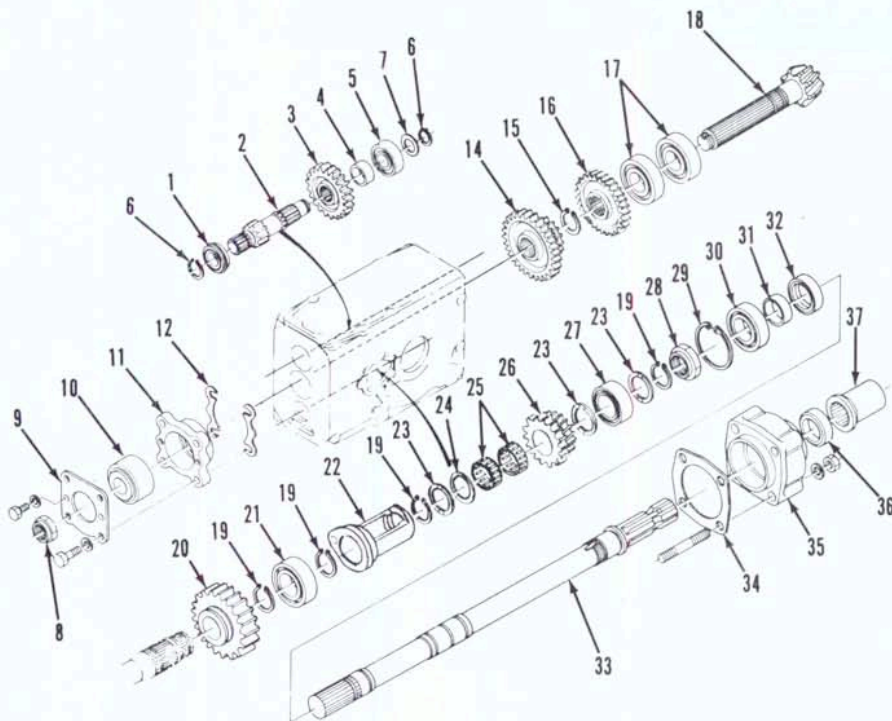

Fig. 119—Exploded view of gears and shafts located in rear transmission housing on Model L355.
ward and remove gears. Unbolt and remove front bearing (10) and bearing case (11). Retain shims (12) for use in reassembly. On Models L235 and L275, remove cap screws securing pto shaft bearing case (35-Fig. 118), then pull pto output shaft (33) and bearing case rearward as a unit from housing. Remove snap ring from rear of pto drive shaft (21) and bearing retainer (13) from front of shaft, then tap shaft forward out of housing. On Model L355, remove snap ring from front of pto output shaft (33-Fig. 119) and remove front bearing (21) with a suitable puller. Remove retainer (22), thrust washers (23 and 24), bearings (25) and gear (26). Remove bearing case mounting screws, then pull shaft and bearing case (35) rearward from housing. On all models, remove nut (28-Fig. 118 or 119) and snap ring (29), then press bearing case and bearing off shaft. Drive oil seal (32) out of case.
To reassemble rear transmission housing, reverse the disassembly procedure while noting the following: Use a new nut (28) on pto output shaft and tighten to a torque of 150-195 N·m (110-145 ft.-lbs.). Stake nut after tightening. Be sure oil groove of thrust washers faces gear (23—Fig. 118 or 26—Fig. 119). Bevel pinion shaft (18—Fig. 118 or 119)